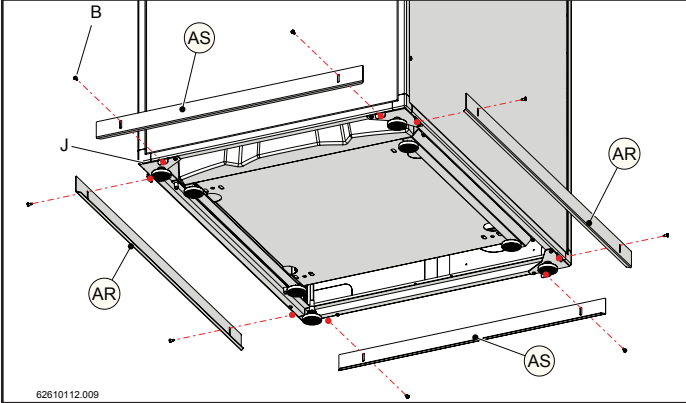

Figure 15-30
16.- Finally, attach metal sheets (AR) and (AS), using screws "B", to the lower framework "J"; as shown in figures 15-30 and 15-31.